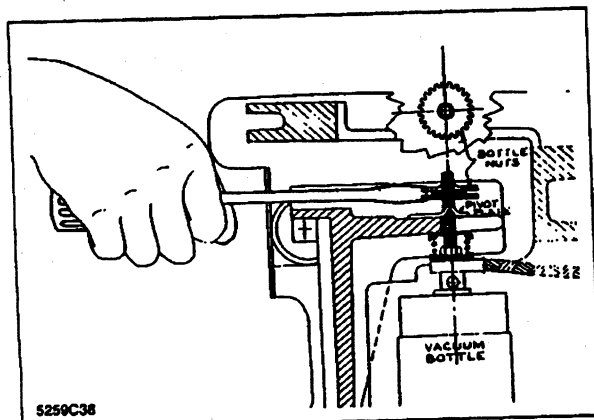
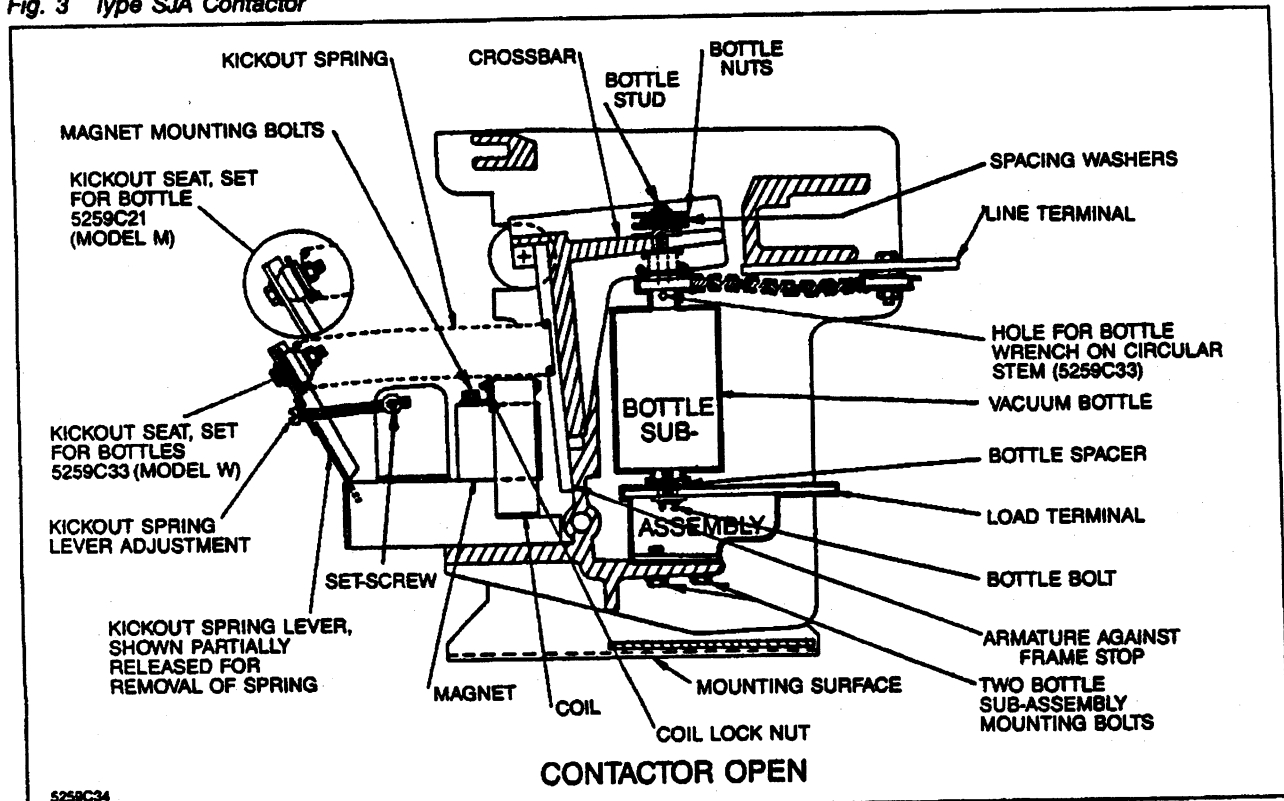

Fig. 1 Bottle Nut Locking/Unlocking
Fig. 4 Type SJO Contactor
4. Remove the bottle nuts from the top stems, using a screwdriver, as shown in Figure 1, to unlock. Set aside the nuts and washers.
- k. Turn the center pole bottle nuts clockwise until they are  $.080 \pm .005$  inch from the pivot plate. This is the **OVERTRAVEL GAP** setting. See Figure 4. Lock the bottle nuts with a screwdriver inserted from the front of the frame molding, turning the screwdriver counterclockwise with the blade fitted from a notch in one bottle nut across to a notch of the other bottle nut. See Figure 1.